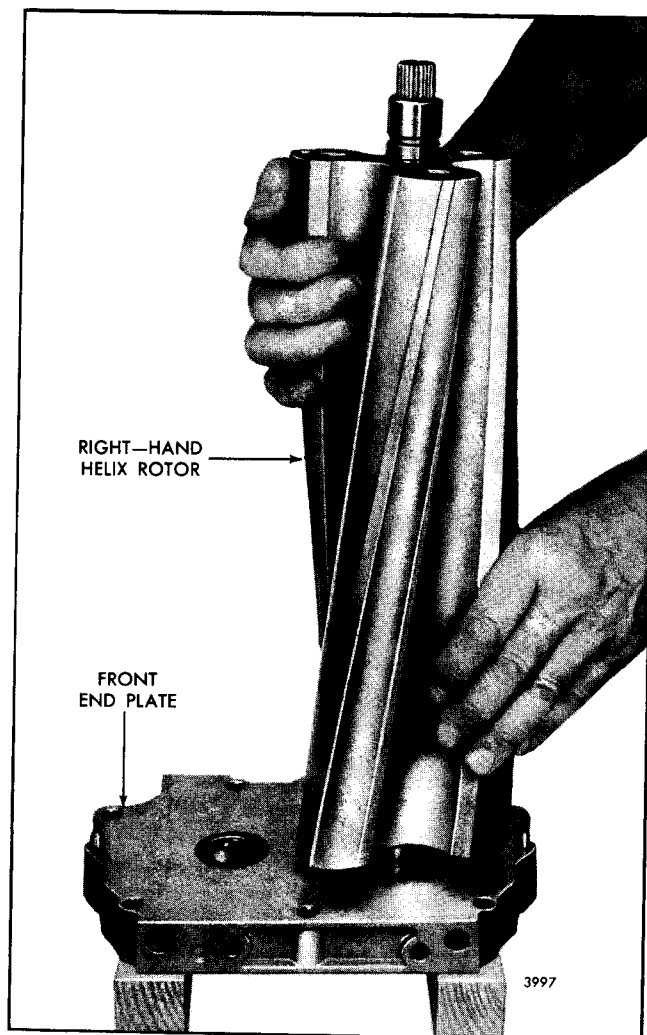
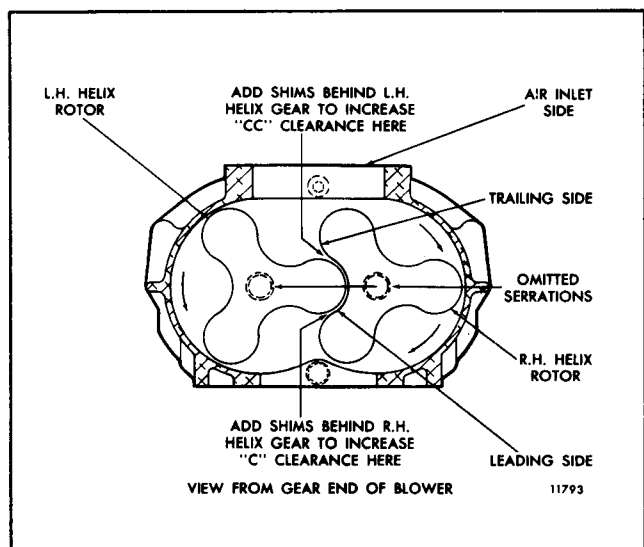

Fig. 14 - Installing Blower Rotor in Front End Plate
Fig. 20 - Diagram Showing Proper Location of Shims for Correct Rotor Lobe Clearances
The rotors must be assembled in the blower housing with the omitted serrations in the rotor shafts aligned as shown in Fig. 20.
- b. Hold the right-hand helix rotor in a vertical position, gear end up, with the omitted serration in the splines of the shaft facing to the right as shown in Fig. 20. Then start the end of the shaft straight into the oil seal in the right-hand shaft opening in the end plate as shown in Fig. 14 and lower it until the lobes of the rotor contact the end plate.
- b. Rotate the rotors to bring the omitted serrations on the shafts in alignment and facing to the right (Fig. 20).
6. After determining the amount one rotor must be revolved to obtain the proper clearance, add shims back of the proper gear as shown in Fig. 20 to produce the desired result. When more or less shims are required, both gears must be removed from the rotors. Placing a .003" shim in back of a rotor gear will revolve the rotor .001".